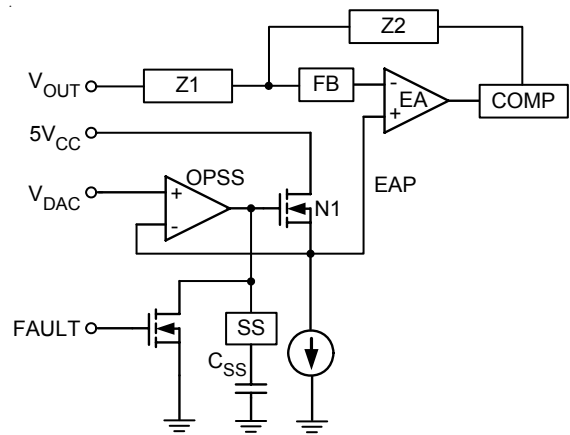
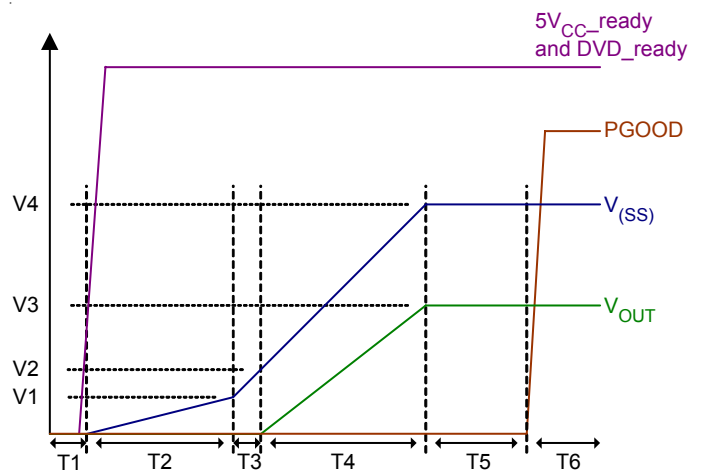

Figure 20. Soft Start Circuit
Figure 21. Soft Start Waveform
During start-up, RT9245A will detect 5V_{CC} and 12V_{IN} (through DVD pin). In Figure 21, 5V_{CC} or 12V_{IN} is not ready during T1. V_(SS) (in Figure 20) is pulled to GND by FAULT. V_(EAP) is also equal to GND. V_(FB) and V_{OUT} will try to follow V_(EAP) thus both V_(FB) and V_{OUT} are equal to GND during T1. During T2, both 5V_{CC} and 12V_{IN} are ready, FAULT = low, OPSS starts charging up C_{SS}. In the design of RT9245A, I_{SS} (the maximal current sink and source capability of OPSS) is limited and time-variant. During T2 (V1 = 0.4V > V_(SS) > 0), I_{SS}(T2) is equal to about 10uA.
After V_(SS) > V1, I_{SS} changes to about 20uA. The rising speed of V_(SS) becomes about 2 times faster than in T1. In Figure 20, MOSFET N1 will turn on only if V_(SS) > V_{TH_N1} (threshold voltage of N1) $\cong 0.7V = V2$. Before N1 turns on, V_(EAP) is still 0V.